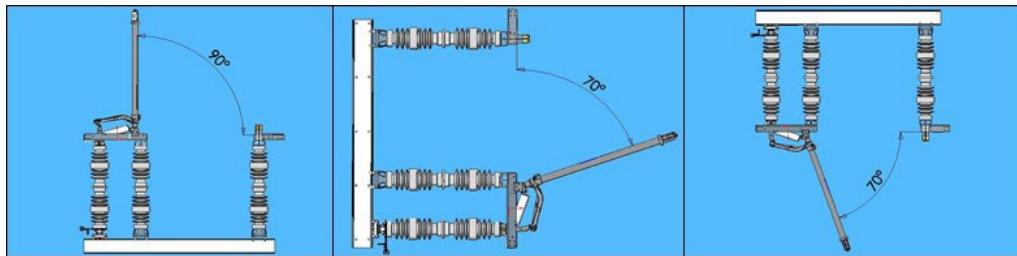
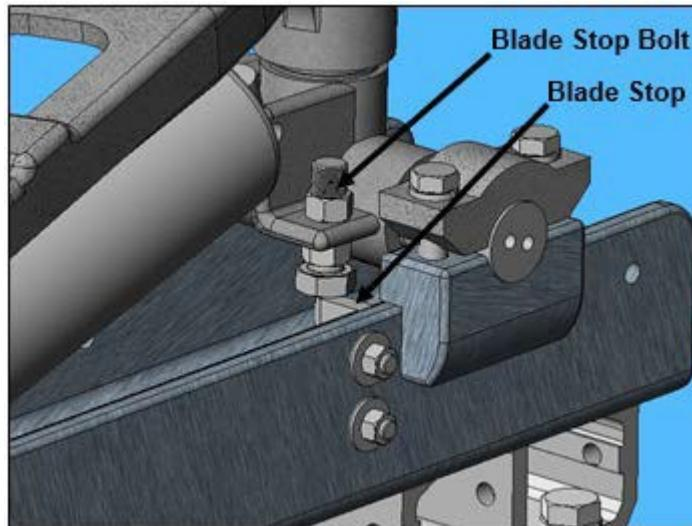

Figure 10: Proper Mounting Positions
Figure 11: Blade Stop (Open Position)
4.6. The Mounting Positions and Proper Blade Openings are shown in **Figure 10**.
4.6.1. Conventional blade open positions are shown in **Figure 10**. The EV-2 switch will be shipped with one of these blade open angles unless another angle is specified. Slight changes to the blade fully open angles are easily made in the field. Simply adjust the open position stop bolt on the blade carrier assembly shown in **Figure 11**, and then readjust the stop located at the bottom of the rotating insulator to match the blade angle.